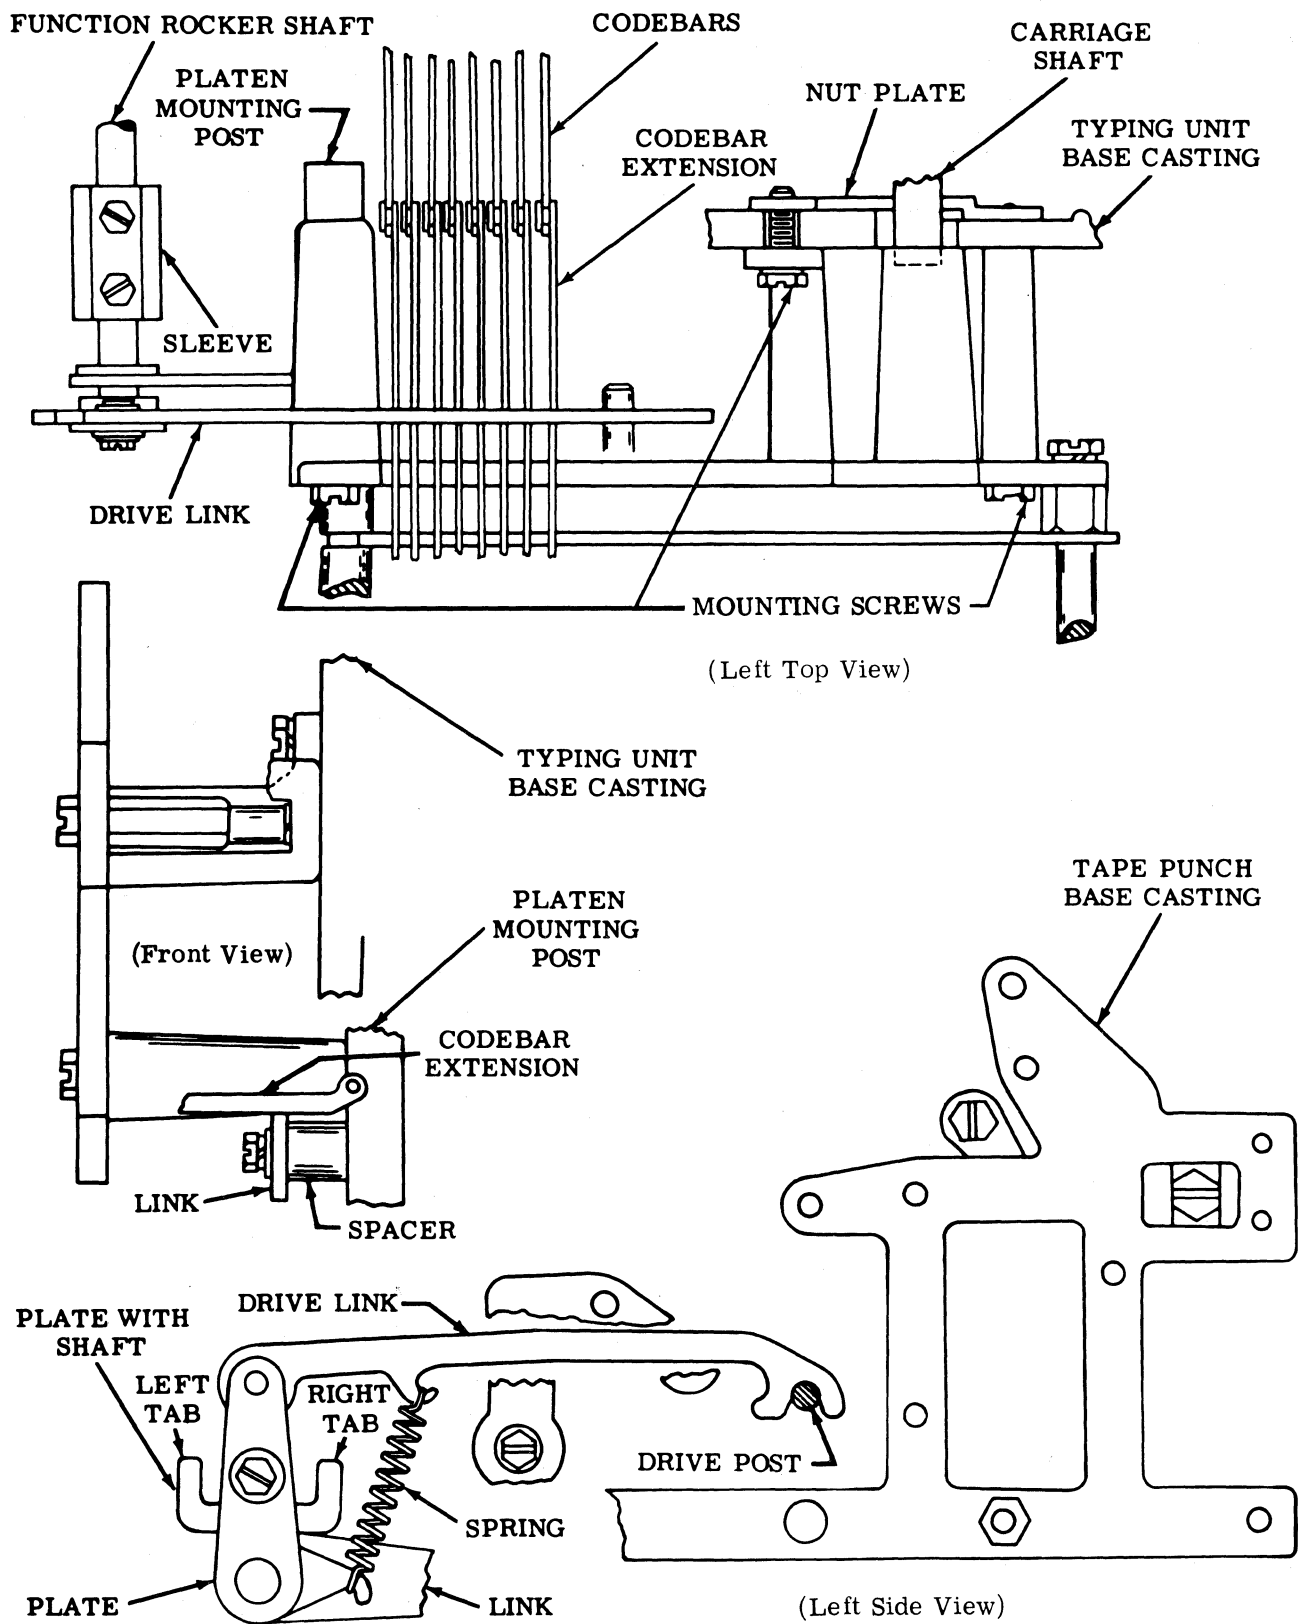

Figure 4 - Tape Punch (Early Design)
2.06 Early Design (Aluminum Casting): To remove the tape punch from the typing unit base casting (Figure 4), proceed as follows.